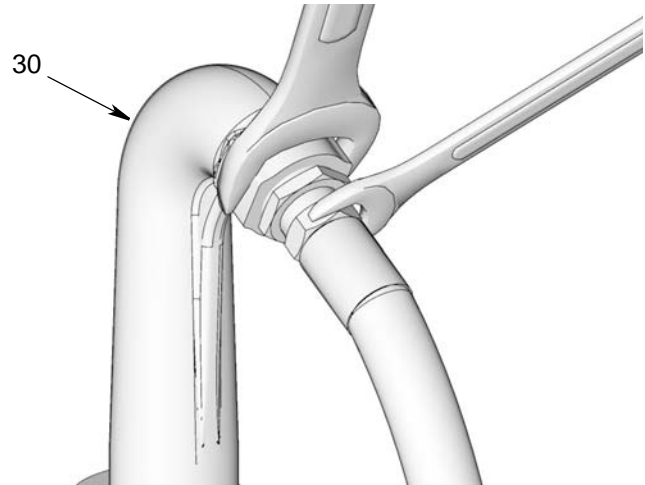

FIG. 58
9. Using two wrenches on the flats, working in opposite directions, loosen and remove the hose from the outlet fitting (FIG. 58).